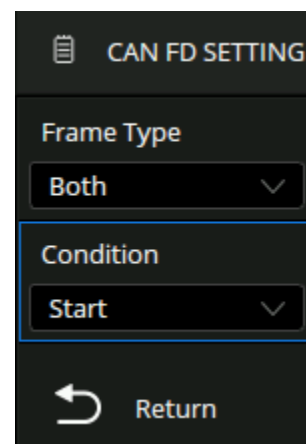

Figure 10.37
- The **CAN FD SETTING** menu will appear (Figure 10.37)